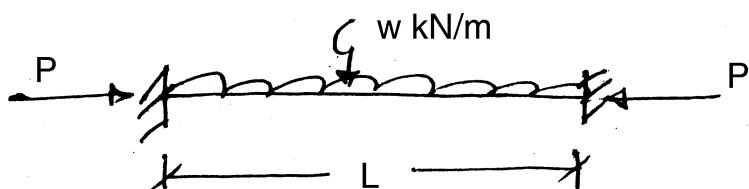

Fig. 4
4. Derive the equation of BM and deflection of a beam column subjected to loading shown in Fig. 4.